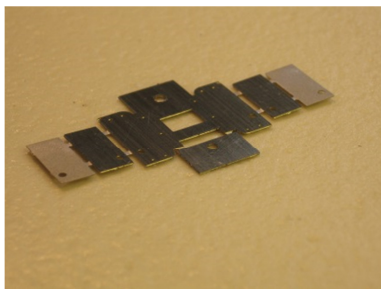

Fig. 13
22. **Remember the half etch lines are on the inside.** Fig 13 - 20.